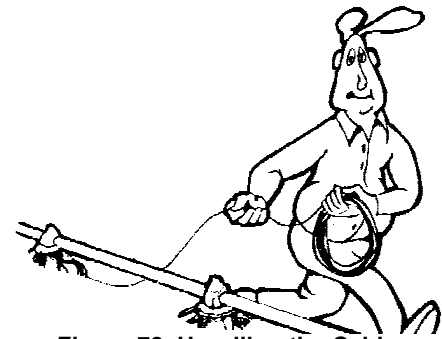

Figure 78. Unrolling the Cable
1. Unroll the bulk anti-roost cable. Note: If the cable is unrolled as shown in **Figure 78**, taking 5 loops of the coil with one hand, then changing hands to remove 5 loops as it is unrolled, it will lie flat during installation.